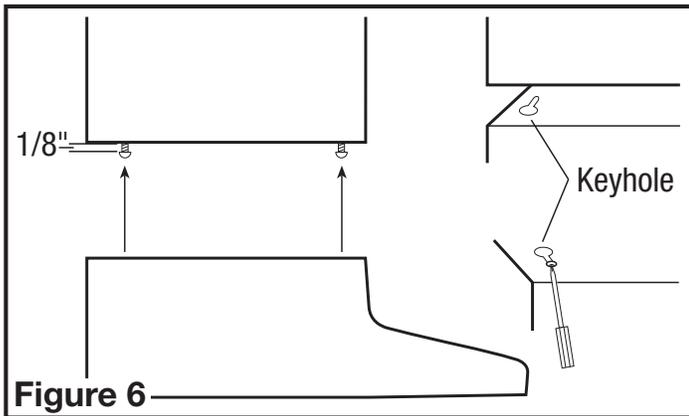

Figure 6
5. Install the 4 mounting screws at the previously marked locations. Leave approximately 1/8" clearance. Slide the hood in place through the keyhole slots and align the front of the hood so that it is flush with the front of the cabinets. Tighten all screws securely (**Figure 6**).